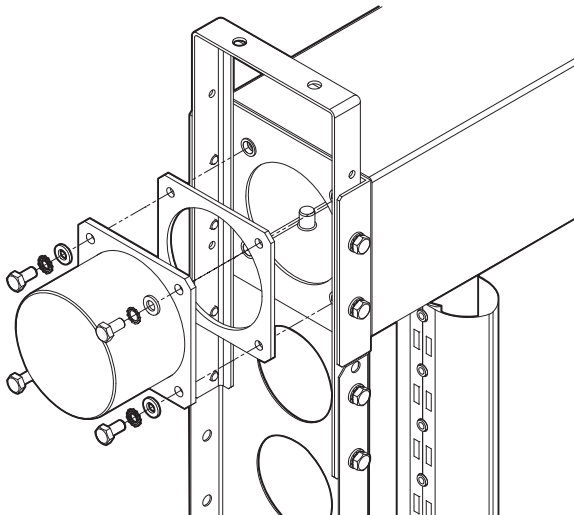

Fig. 2.b
- Using 7-8 Nm torque (5-6 ft lb), secure the inlet adapter using the fasteners provided. (Fig.2.b) If the inlet adapter is being attached to an inlet extension, use the fasteners included in the extension kit to secure the inlet adapter.